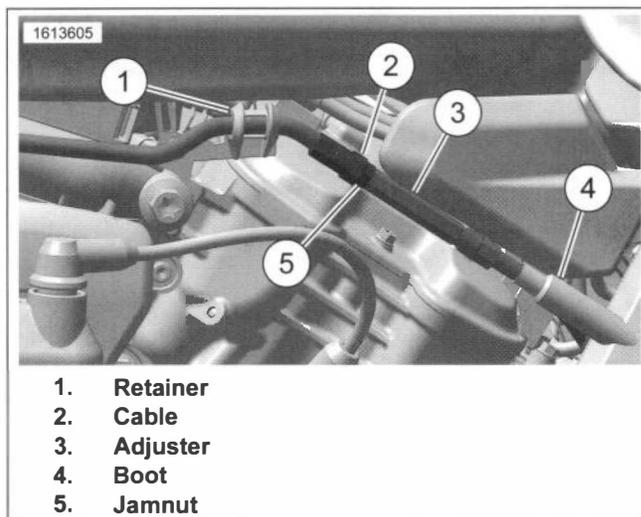

Figure 3-79. Mid Cable Adjuster
1. See Figure 3-79 and Figure 3-81. Remove clutch cable from vehicle.